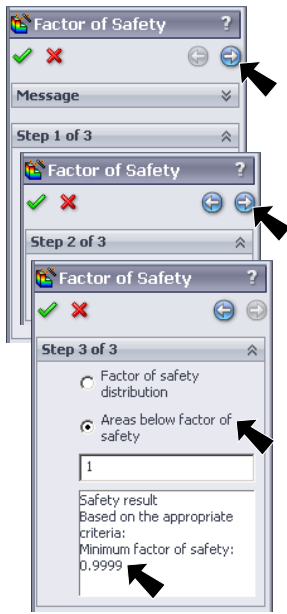

Fig. 22
Step 4. In the Factor of Safety Property Manager, **Fig. 22**
Step 5. In the Factor of Safety Property Manager **Step 3**, **Fig. 22** select **Areas below factor of safety** note **Minimum factor of safety .9999** your FOS might be slightly different click OK .